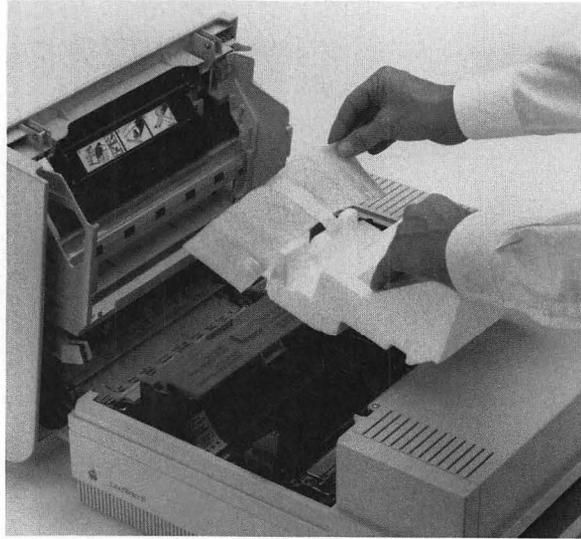

Figure 1-4 Removing the packing material from inside the printer
3. Peel off the filament tape and remove the packing material from inside the printer. (See Figure 1-4.)